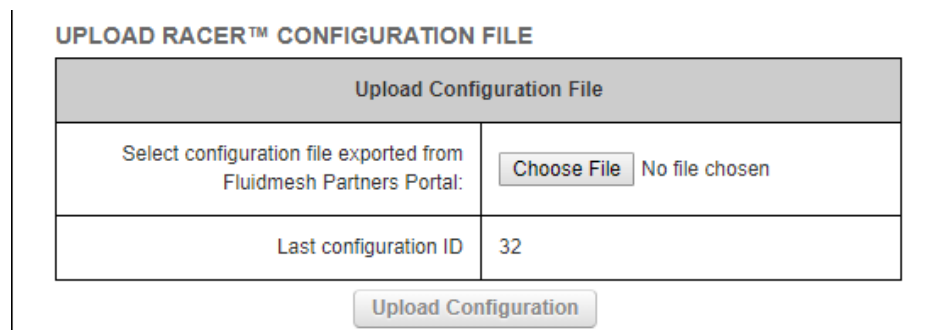

Figure 19. Configurator interface (FM Racer configuration file upload dialog)
3. Click the **Choose File** button in the **Upload Configuration File** section (Figure 19 (page 58)).